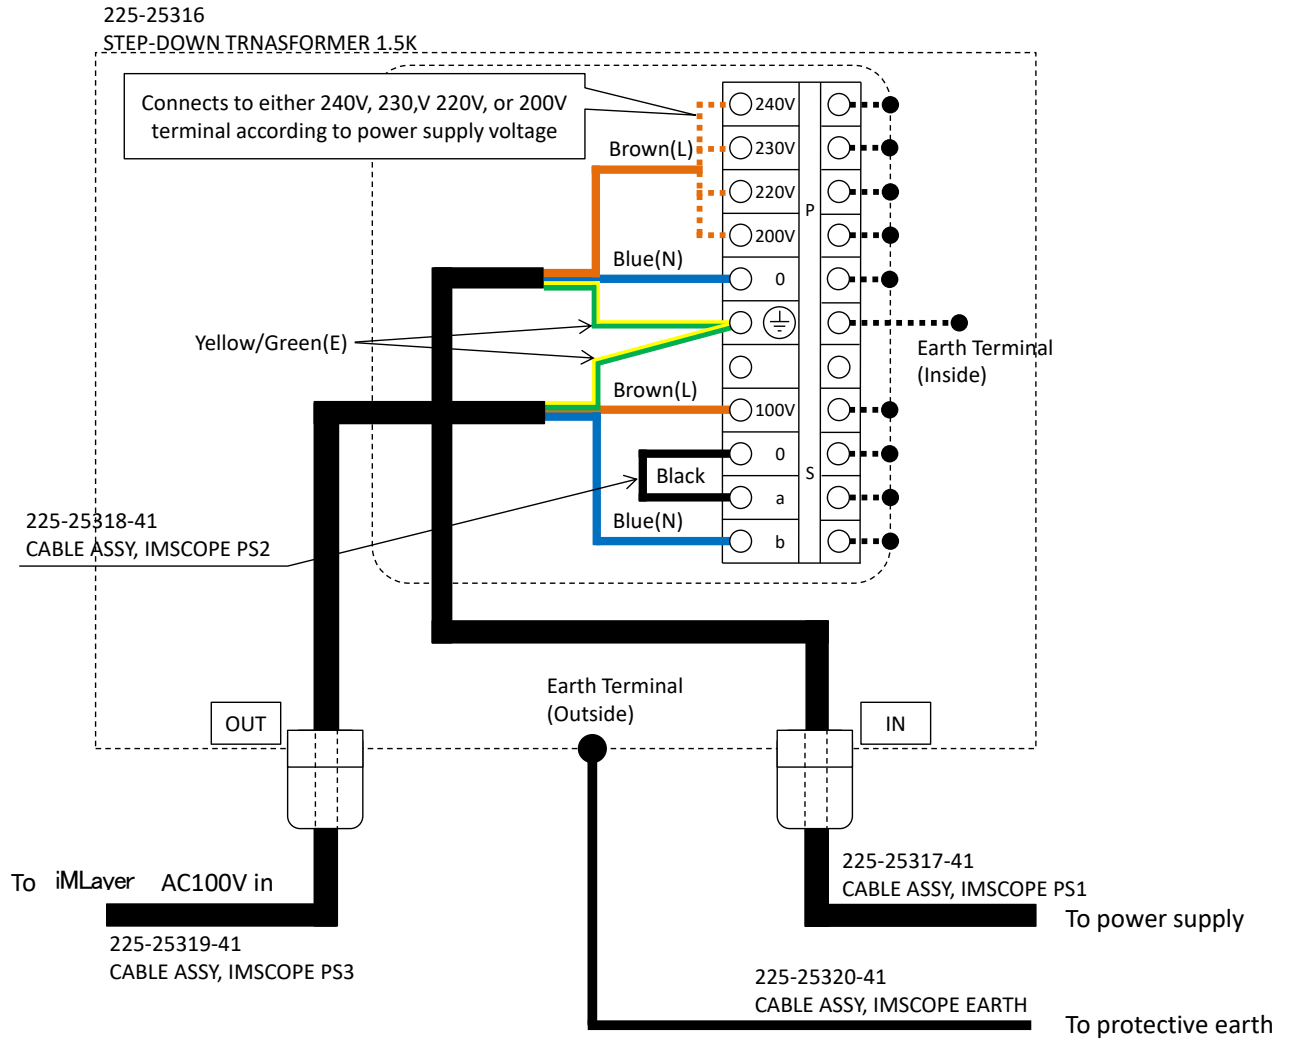

Fig 4 How to install the step- down transformer, TBX - 1.5KVA
- In the country where power supply voltage is not AC100V, use a step-down transformer on the AC100V power-supply line. Refer Fig.4 to install the step-down transformer.